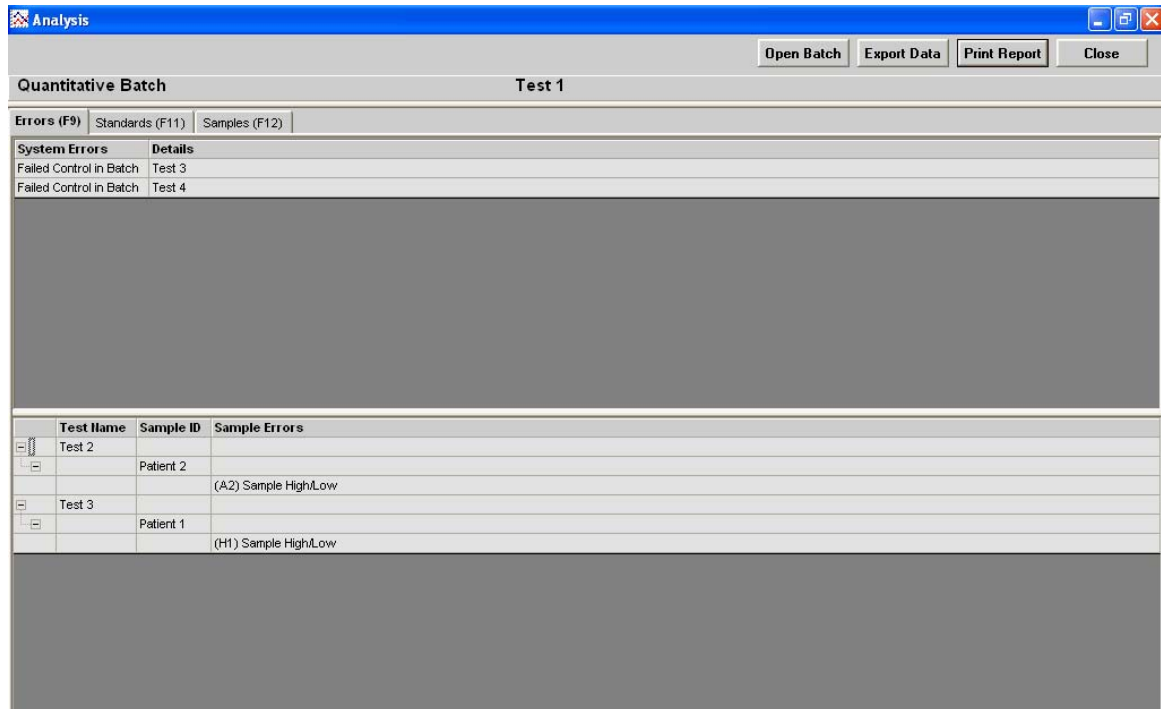

Figure 5-86 Analysis Window—Errors Tab
The Errors tab displays a list of errors that occurred during acquisition. See Figure 5-86. It organizes the errors in two categories:
2. The top half of the screen displays system and assay related error. The name of the error and a detailed description is displayed. See Figure 5-86 and Table 5-11.
3. The bottom half of the screen displays sample related errors. The error is displayed as Test Name, Sample ID, and Errors. See Figure 5-86 and Table 5-11.